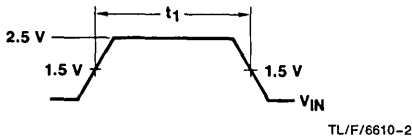

FIGURE 1
- Set-up time (t_1) for input trigger pulse must be > 40 ns. (See Figure 1).